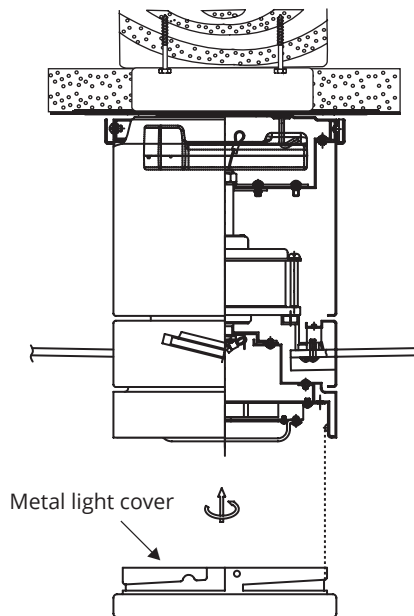

FIGURE 17
5. If installing the optional metal light cover, make sure it is securely tightened. (Fig. 17)
NOTE: Add metal light cover if you do not need lighting function or prefer a different aesthetic. (Fig. 17)